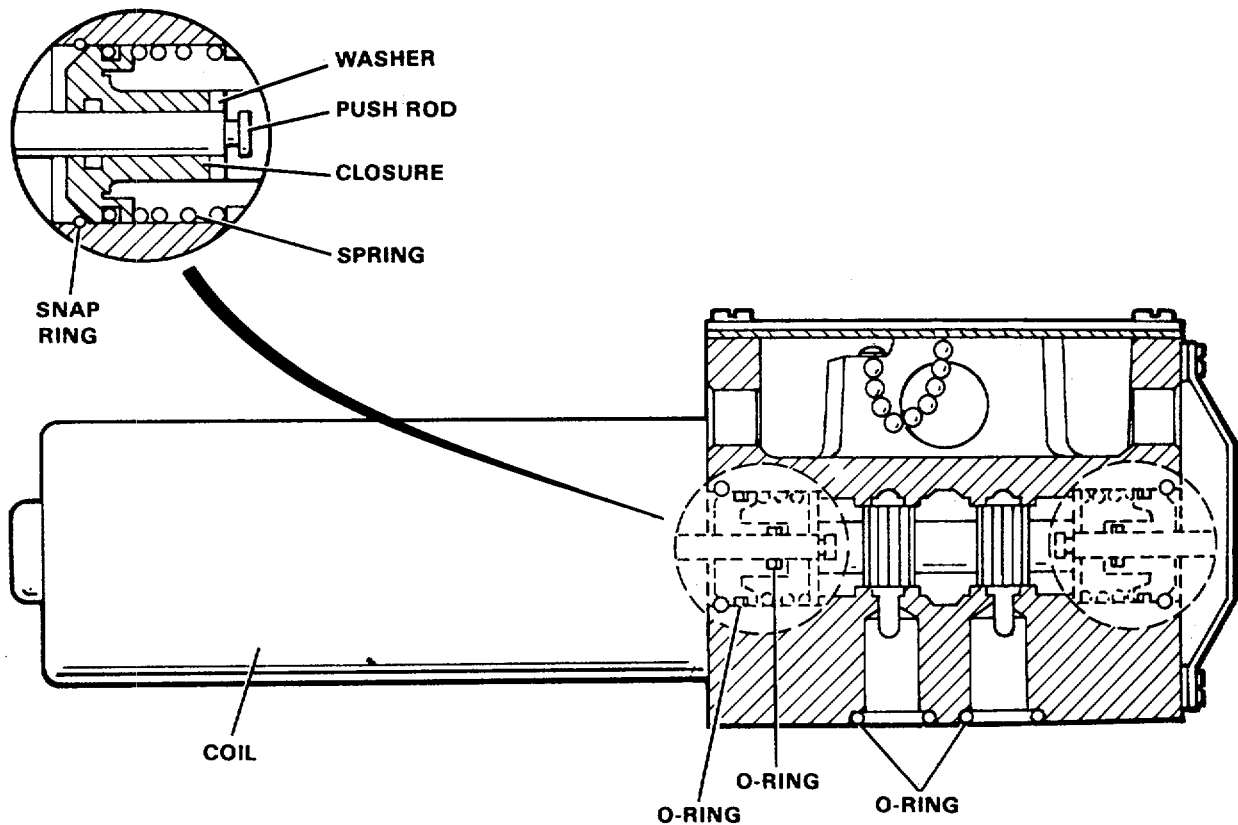

Figure 11D-8. Circuit Selector Valve (36Q143)
3. Remove the nuts, lockwashers and capscrews securing the valves, and subplates to the support bracket. **REPAIRS.** Repair of this valve is limited to the replacement of the coil and several O-rings. See Figure 11D-8. When the solenoid assembly is removed, all that is required to replace the O-rings is to remove the snap ring, remove the closure and replace the O-rings. The O-rings between the valve and subplate are also included in the kit.